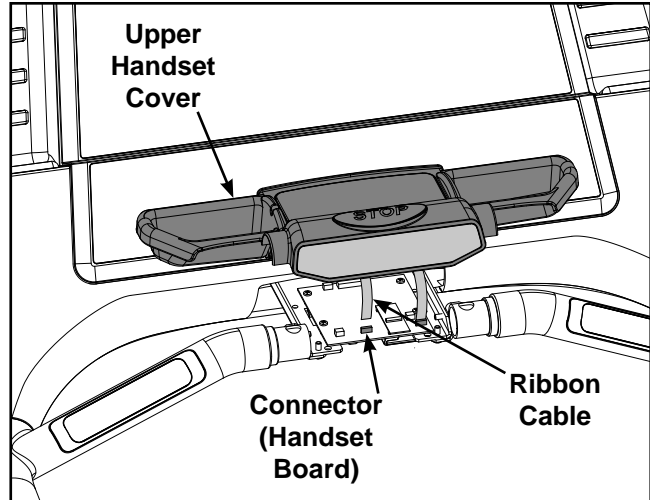

Figure 32
- Carefully lift up the upper handset cover and unplug the ribbon cable(s) from the handset board. See Figure 32.
- A. Place the upper handset cover in position on handrail. See Figure 32.